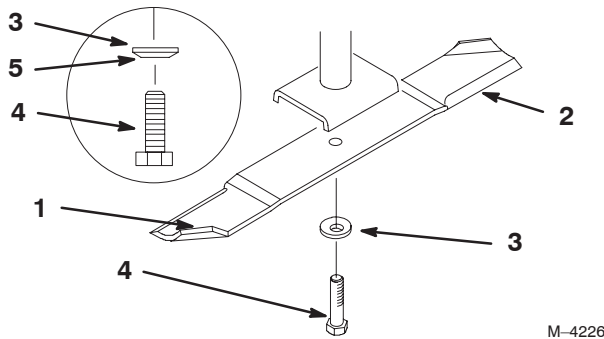

Figure 37
1. Hold the blade end using a rag or thickly-padded glove. Remove the blade bolt, spring disk and blade from the spindle shaft (Fig. 37).
blade is not balanced, file some metal off the end of the sail area only (Fig. 37). Repeat this procedure until the blade is balanced.
1. Install the blade onto the spindle shaft (Fig. 37).
2. Install the spring disk and blade bolt (Fig. 37). **Torque the blade bolt to 85–110 ft-lb (115–150 N m).**